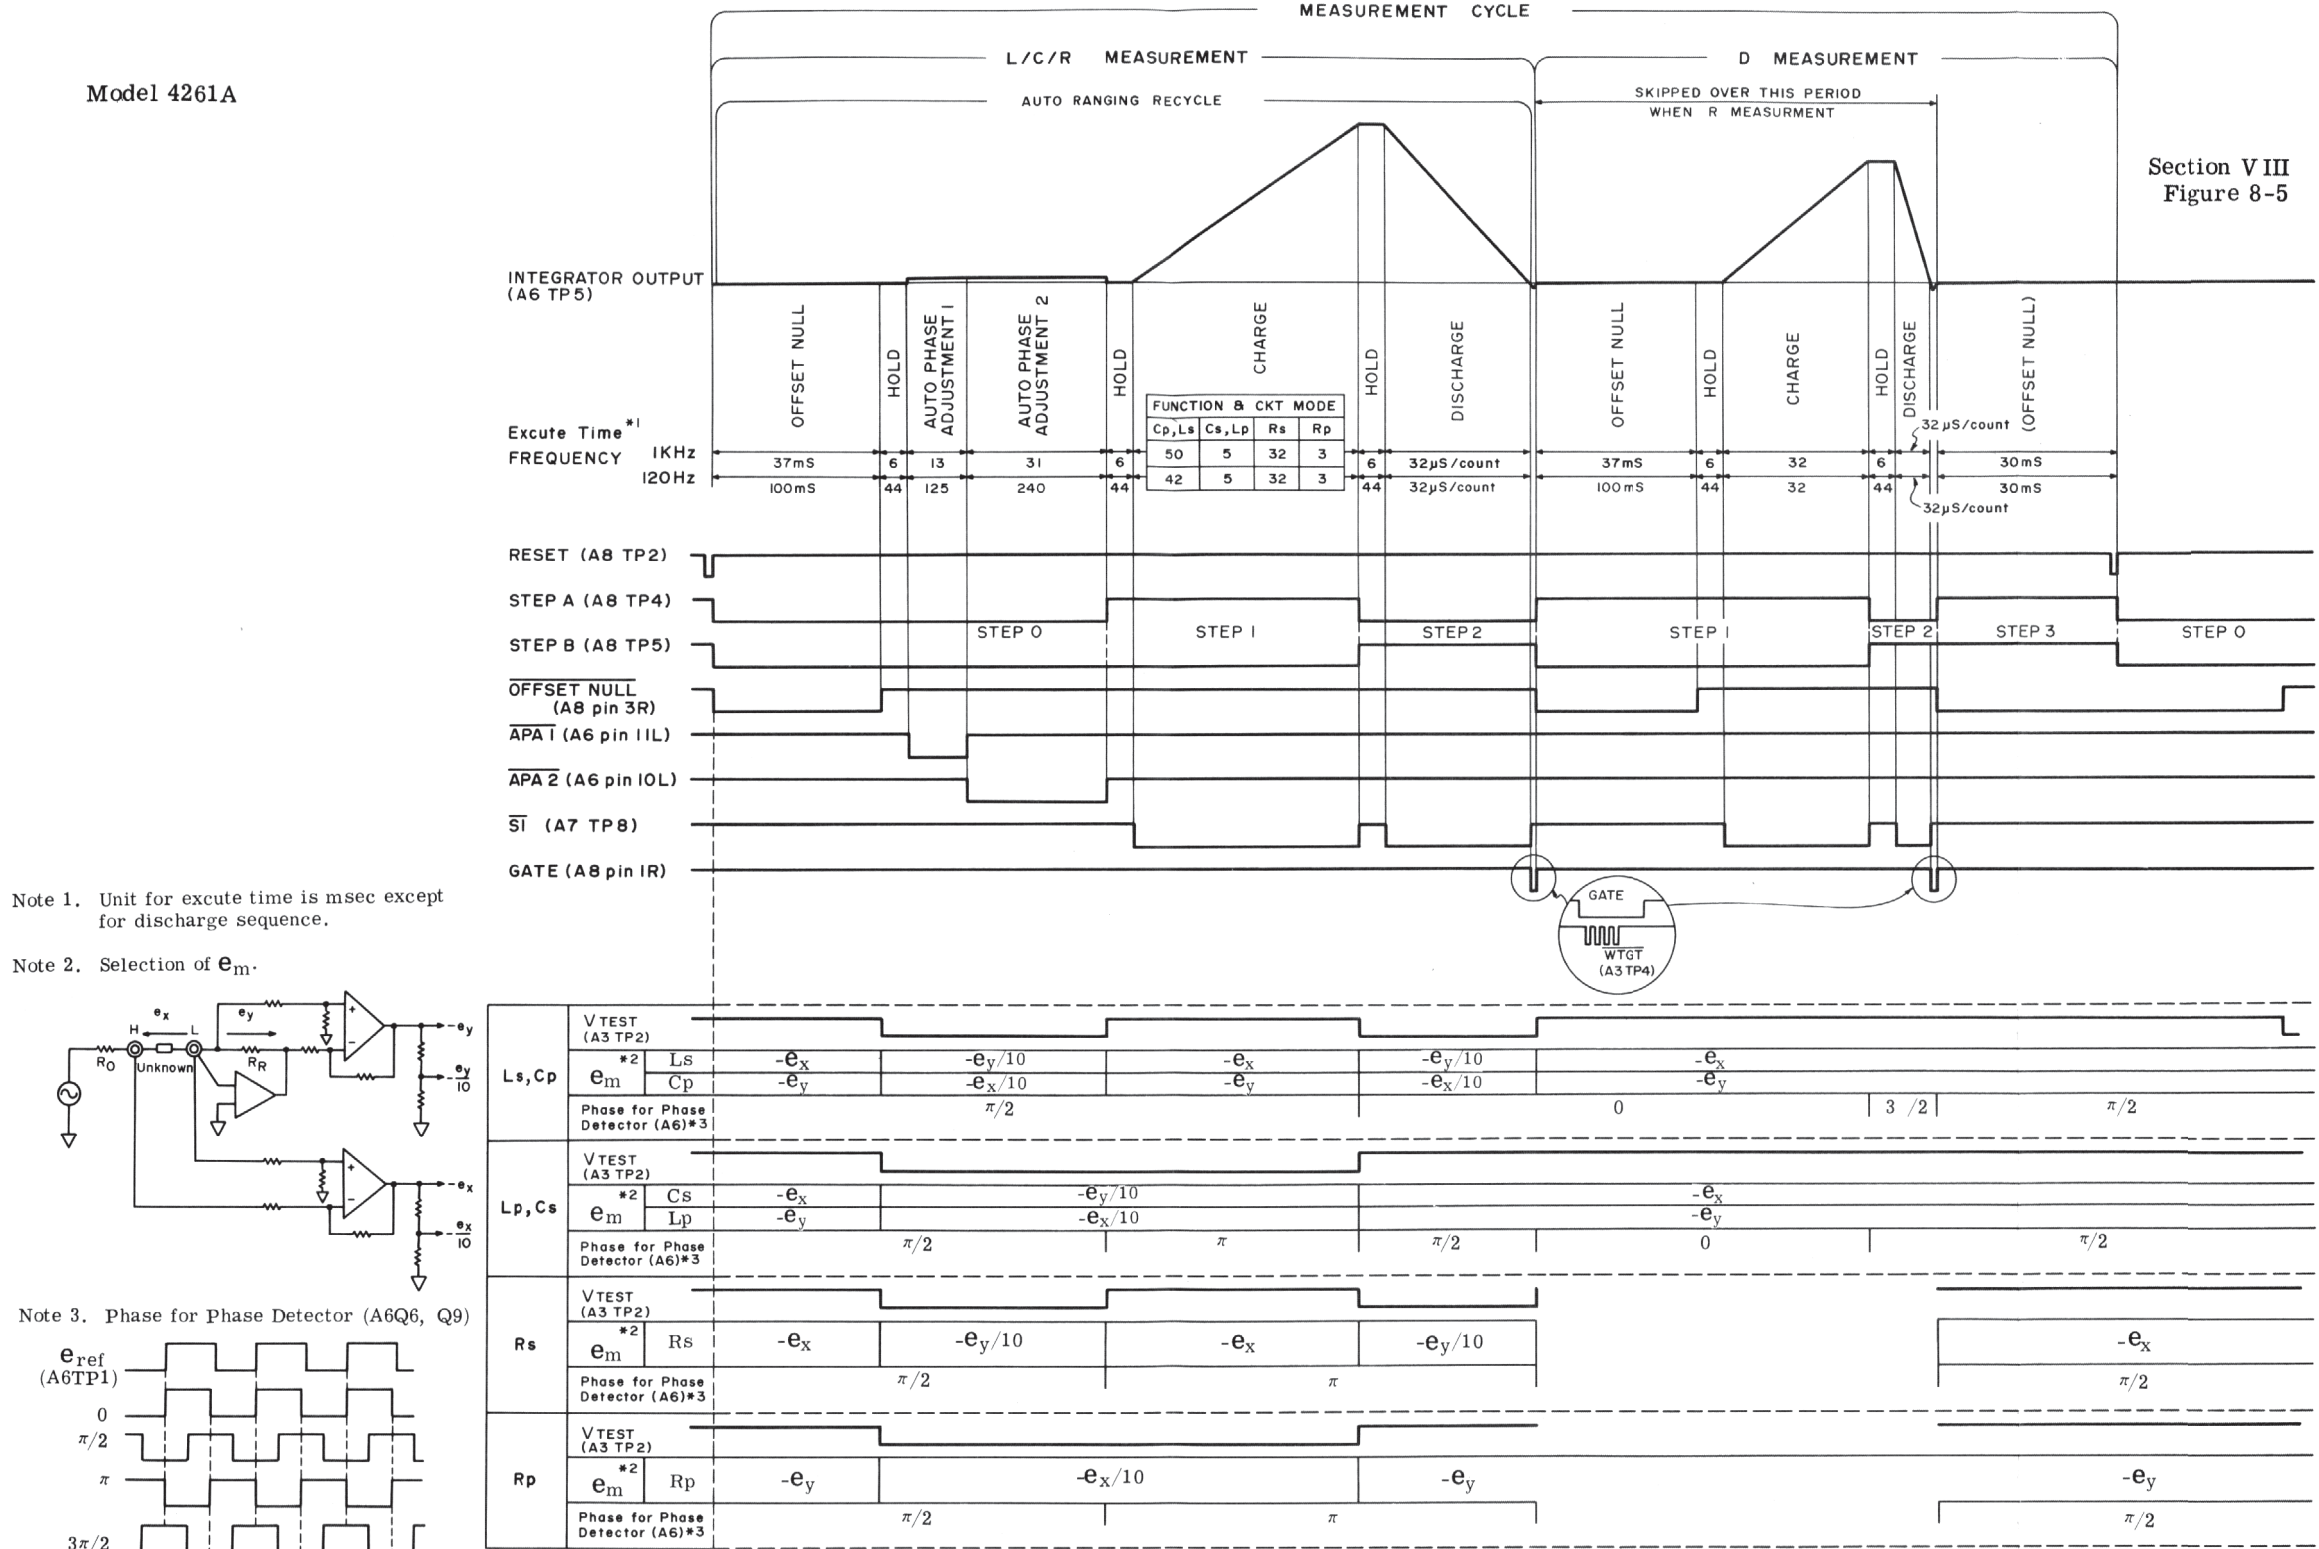

Figure 8-5. Timing Diagram.
The  $E_m$  signal is selected by FET switches A5Q9 thru Q12 which are, in turn, controlled by signal selection signals from the digital section. The method of selecting the  $E_m$  signal is graphically shown in Figure 8-5 Timing Diagrams. The selected  $E_m$  signal is amplified by A5U5A, U5B and becomes an input signal for the phase detector on A6 Board. C OFFSET signal on rear panel is a signal opposite in phase to the signal at the HCUR terminal. When Cp TEST SIG LEVEL switch is set to 50mV position, the gain of amplifier A5U6A, U5B is increased. An SAT Detector detects an  $E_m$  signal level that exceeds approximately  $\pm 5$  volts and transfers SAT signals to digital section (A8 Board).
**8-15. A6 Phase Detector and Integrator.** In this board, the two input signals  $E_{ref}$  and  $E_m$  are converted to a ZERO signal which is fed to the A8 Board (digital Section). The  $E_m$  signal is used as an APAO (Auto Phase Adjustment Output) signal only when auto phase adjustment signal is fed to A6 Board to minimize any phase error which could cause a measurement error. However, firstly,  $E_{ref}$  is fed into the Phase Locked Loop (PLL) circuits consisting of a phase detector (PD), filter and VCO (voltage controlled oscillator) and is converted into four reference phase signals each being different by 90 degrees in phase one from the other. These four signals are individually selected by the digital circuitry and one is used as the phase detection signal for phase detector A6U6 thru U9 which phase detects the selected  $E_m$  signal. The dc output of the phase detector is applied to the integrator. The output of the integrator is monitored by the Zero Detector to observe the time that the zero level is crossed. This zero signal is sent to Digital Section (A7 Board) by Zero Detector. The output of the phase detector is also provided through A6U10, Q15, C12, etc. to A5 Board as an APAO (Auto Phase Adjustment Output) signal for the period of auto phase adjustment. All logic switches on this board are controlled by control signals from the digital section. See Figure 8-5 for details.
8-25. Figure 8-5 presents a timing diagram for the 4261A. Firstly, output waveforms of the integrator, excute time for each measurement sequence, and main control signals are shown in the upper part of the diagram. The sequence excute times are different for measurement frequencies of 120Hz and 1kHz since the electrical response time for the frequencies are different and a 4f signal (four times the measurement frequency) is sometimes used for determining the charging cycle. Note that the excute time for the discharge sequence is variable. As you can understand from the diagram, the instrument first measures the L/C or R value and then the Dissipation Factor (D). To minimize error, offset null and auto phase adjustment sequences precede the L/C and R
8-26. The lower part of the diagram shows how the analog circuits are controlled. Waveforms for the V TEST signal voltages (which control  $e_m$  voltage selection -- selecting either the voltage across Rr or the voltage across the UNKNOWN) and detection phase for phase detector on A6 board are shown for each circuit mode in the table in Figure 8-5. Both upper and lower sections of the waveform timing diagram have the same time scale.  $-e_x$ ,  $-e_x/10$ ,  $-e_y$  and  $-e_y/10$  in the  $e_m$  column are names for the voltages shown in diagram Note 2. The detection phases 0,  $\pi/2$ ,  $\pi$ , or  $3\pi/2$  are the same as the phase selection signals sent to the A6 board. The phase relationships of the voltages applied to phase detector FET switches A6Q6 and Q9 are shown in diagram Note 3 along with the phase of the  $e_{ref}$  signal at A6TP1. In R measurements, measurement steps 1 and 2 in D measurement cycle are skipped.